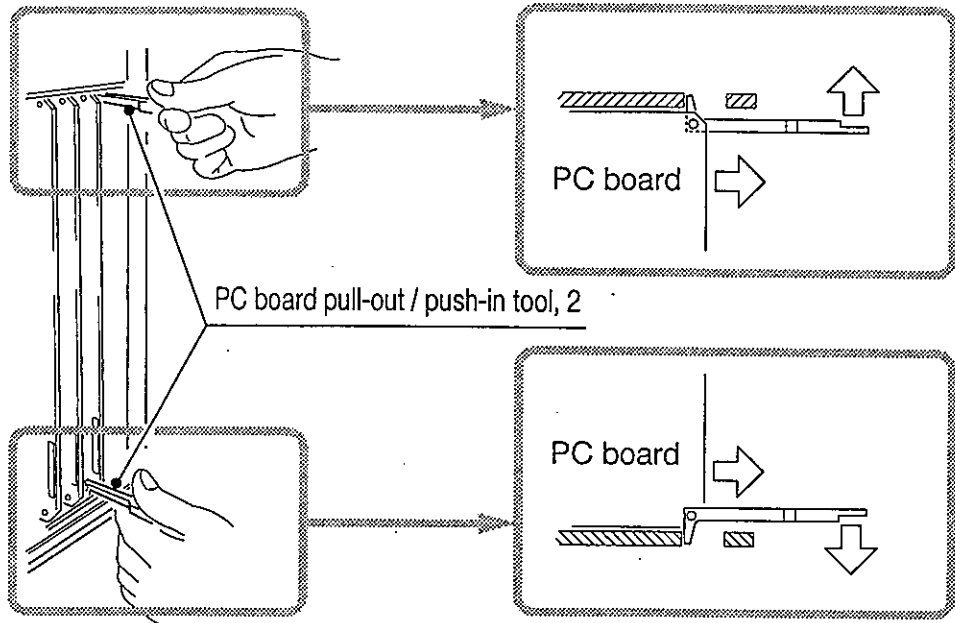

Fig. 45
- 14-1. Removing PC Board . . . . Fit protrusions on 2 PC board pull-out / push-in tools in holes. Then, put tools' claws on square holes in PC board slot. And pull out PC board as illustrated. (Fig. 45)